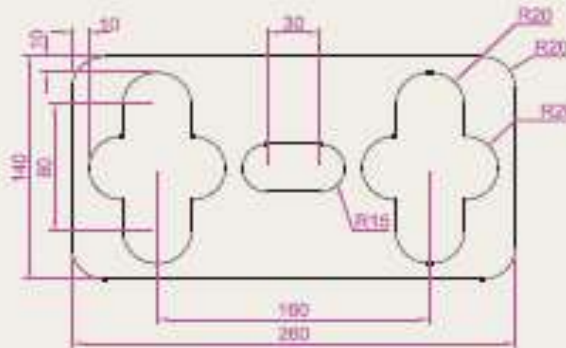

Fig. 5.48 Exercise 3
3. Using the tools **Polyline**, **Circle**, **Trim**, **Polyline Edit**, **Mirror** and **Fillet** construct the drawing given in Fig. 5.48.